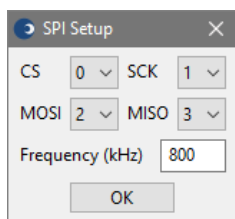

Figure 11: SA5301A-Demo, SPI Setup window
- Click “Setup” to bring up the SPI Setup window, Figure 11. Here it is required to set the bus port pins that have been connected to the various SPI interface pins of the SA5301A. Set each of the four signals to the relevant bus bit used on the FTDI interface device. The SPI clock frequency can also be changed, the default is 800 kHz. It can be set to